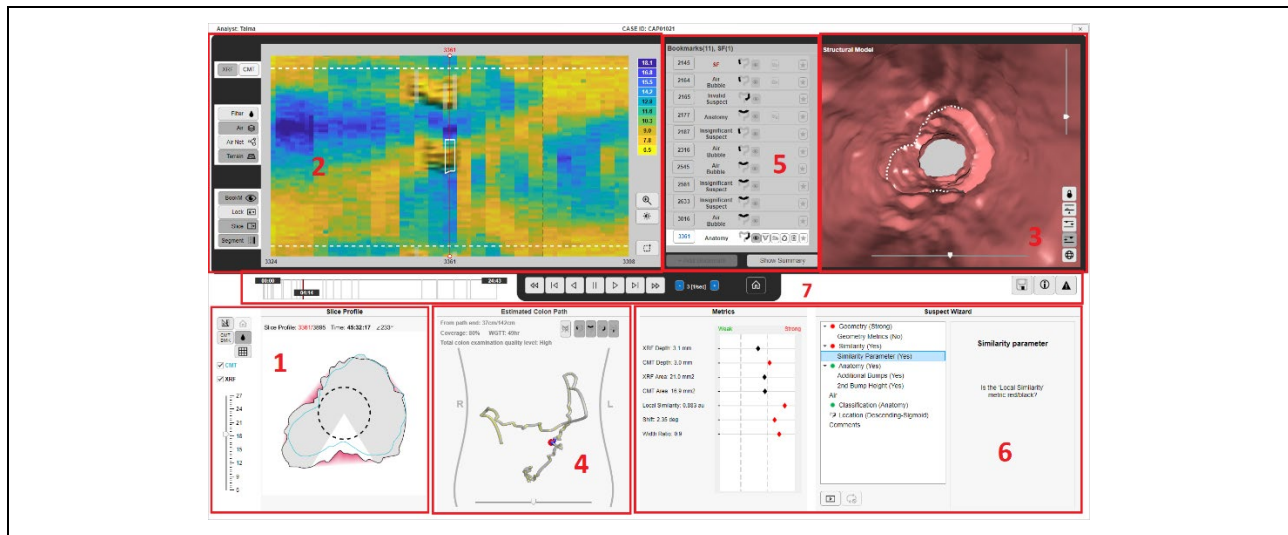
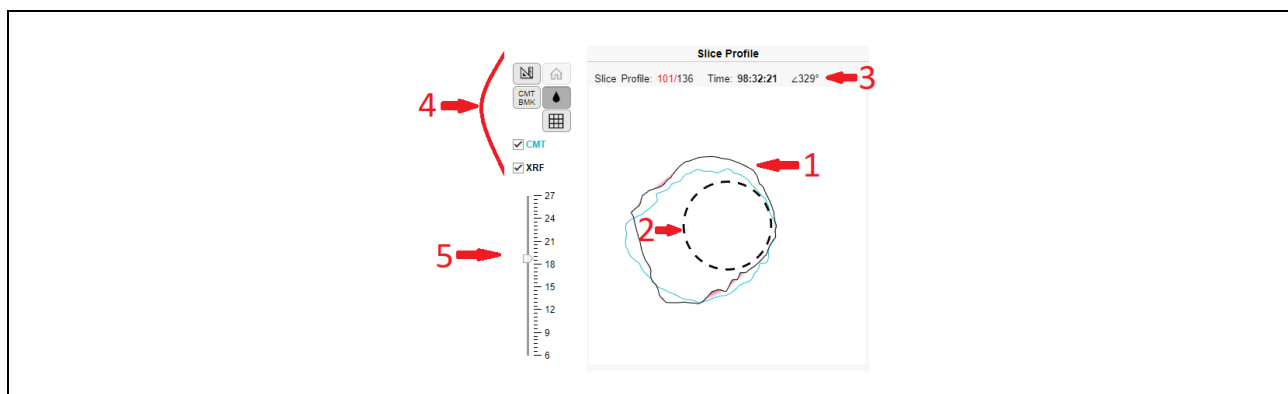

Figure 70: C-Scan® View Editor Main Functionalities
Figure 71: Slice Profile
- Slice profile (#1 in Figure 70)
- XRF/CMT maps (#2 in Figure 70)
- Structural model (#3 in Figure 70)
- Estimated capsule path (#4 in Figure 70)
- Bookmarks table (#5 in Figure 70)
- Suspect wizard (#6 in Figure 70)
- Buttons control (#7 in Figure 70)
The 2D slice (#1 in Figure 70) is the basic reconstructed unit, representing the distances from capsule center to colon wall. For additional information and background on reconstruction process see DOC001212 C-Scan® View User Guide and Training. The slice profile view (see Figure 71) displays a 2D cross section of the reconstructed colon, the current slice marked in the XRF/CMT map.
Default display shows smoothed XRF and CMT slices (#1 in Figure 71), surrounding capsule illustration (#2 in Figure 71).
Slice profile information (#3 in Figure 71) includes:
Slice profile control (#4,5 in Figure 71) is detailed in Table 3.
<p>Slice profile scale (#5 in Figure 71) allows zoom in (right picture) and zoom out (left picture):</p>  <p>Possible to control the range type by left click on the ruler –automatic range will reset the zoom once performing any change in the 2D map. Manual range allows the user to decide on the range.</p> 	According to slice size, no fix default
The 2D XRF/CMT map (#2 in Figure 70) displays a constant number of slices, connected to create a 2D map of the reconstructed colon. The XRF/CMT headline enables toggle between the two signals. For additional information and background on reconstruction process and XRF/CMT signals see DOC001212 C-Scan® View User Guide and Training.